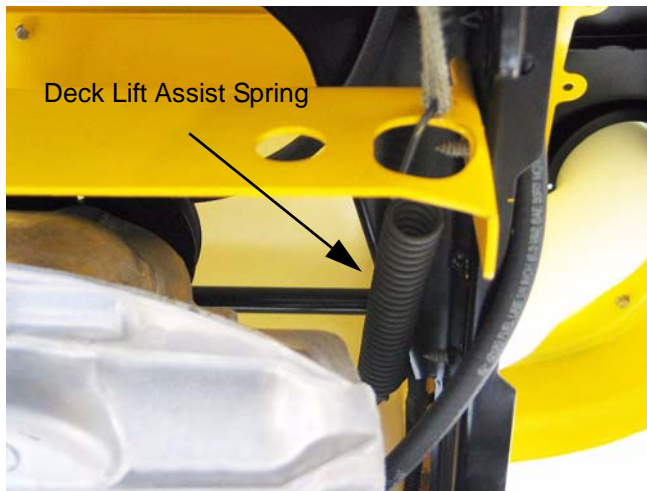

Figure 12.4
- 12.4. Disconnect the deck lift assist spring that extends from the deck lift shaft to the transaxle torque bracket using a length of starter rope or a spring tool. See Figure 12.4.